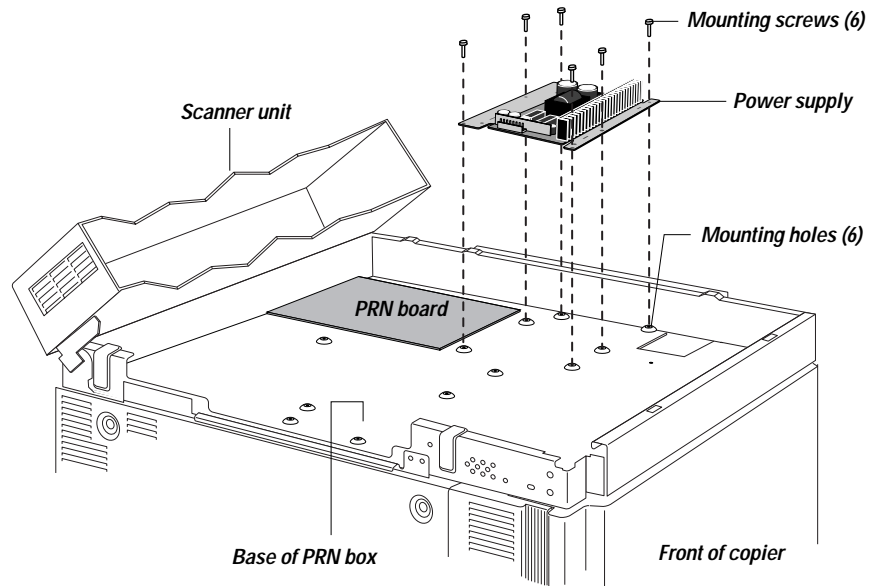

Figure 2-7 Installing the power supply
3. Place the power supply on the mounting holes at the base of the PRN box (see Figure 2-7 on page 2-9).